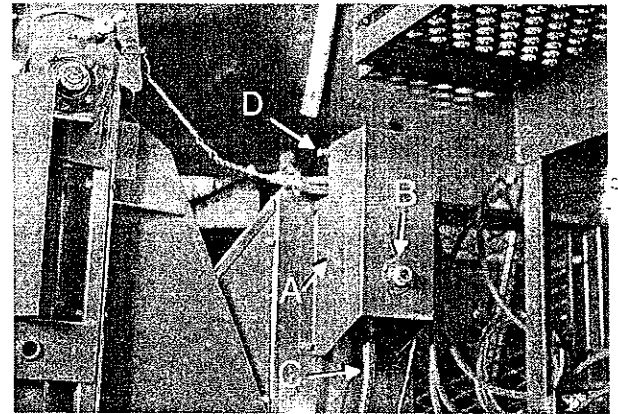

Figure 30. Planetary Gearbox Reservoir.
**Planetary Gearbox** - Drain the Planetary gearbox and oil reservoir by removing the 1/2" hose from the bottom of the reservoir. See Figure 30-C. Allow the planetary to fully drain. When refilling the planetary it is important to be sure that all of the air is out of the top of the planetary so that the top bearing is completely flooded. This can be done in one of two ways.